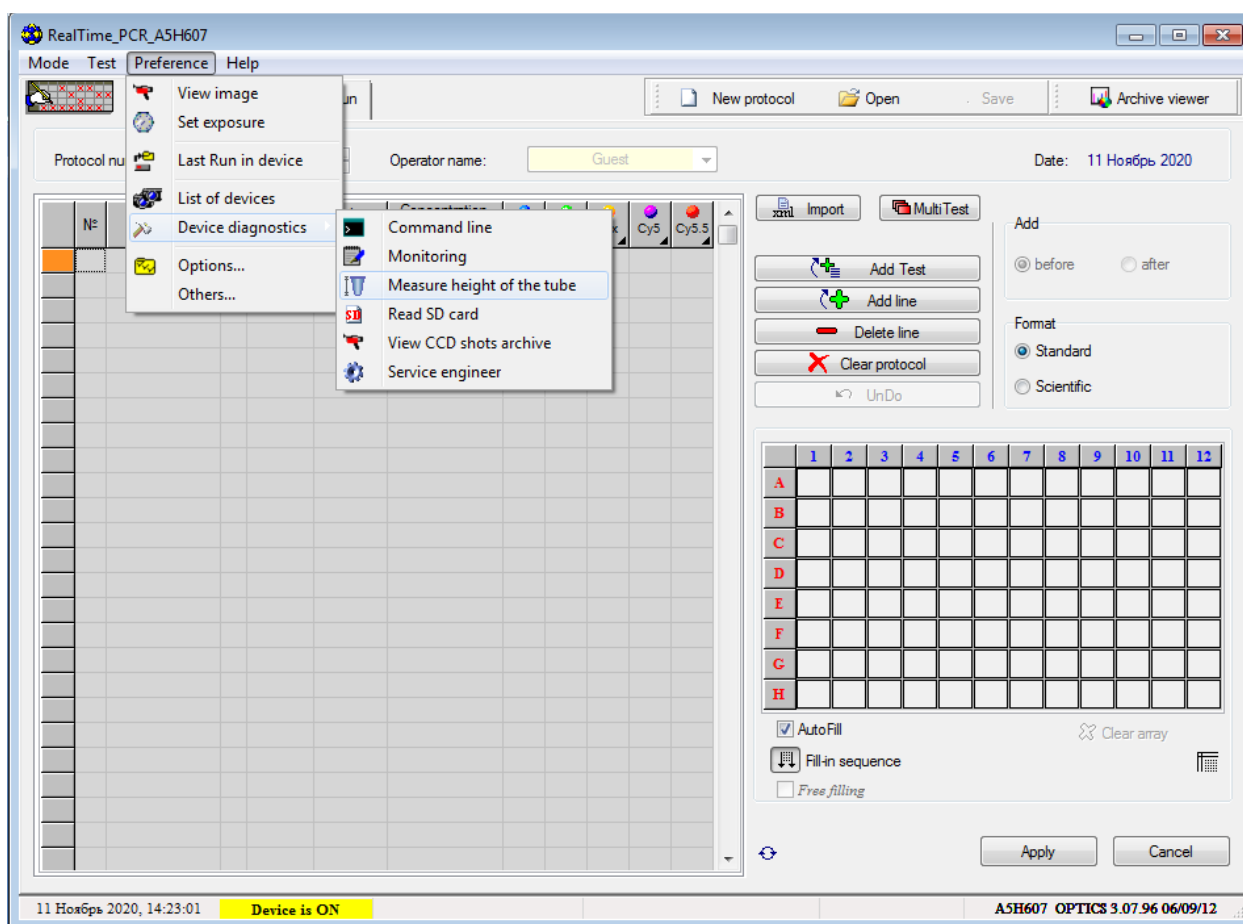

Fig.89 Measure height of the tubes
- select the Preferences/Device diagnostics/Measure height of the tubes (Fig 89), and wait for the message (Fig.90):